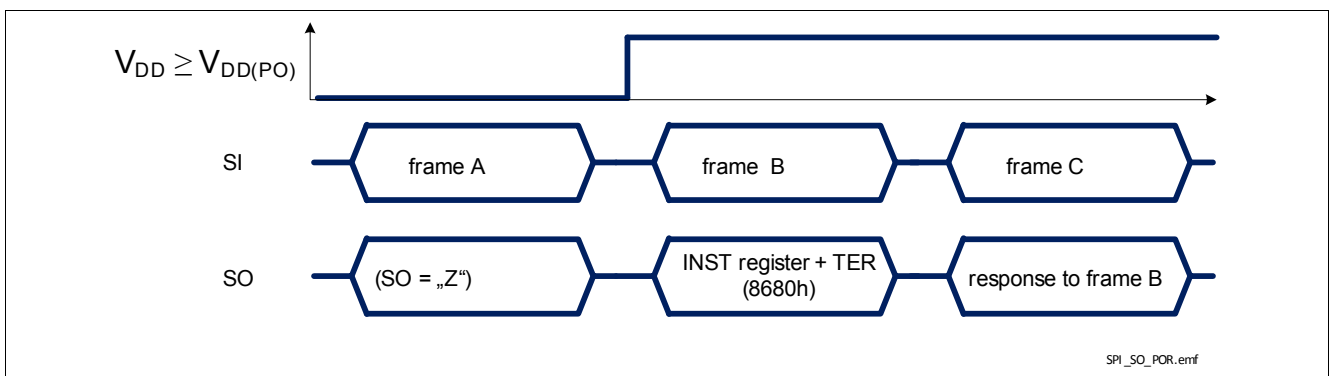

Figure 30 TLE75080-EMD response after coming out of Power-On reset at V_{DD}
- when TLE75080-EMD logic supply comes out of Power-On reset condition or after a Software Reset, as shown in **Figure 30**